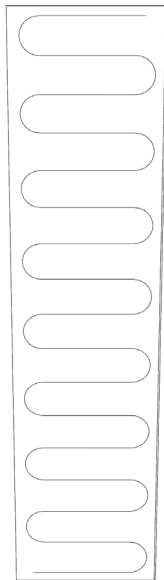
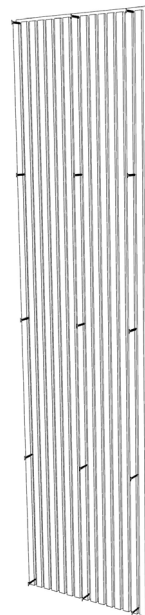

Figure 7. Chemical fastening of the HARMONY panel with construction adhesive.
Figure 8. Mechanical fastening of the HARMONY panel with 15 screws.
The panel orientation can be horizontal or vertical. Please refer to the construction plan to determine the panel orientation and layout. For wall mounting, we recommend chemical and mechanical fastening. Apply a cartridge-type construction adhesive behind the acoustic backing in a zigzag pattern (**Fig. 7**). For mechanical fastening, it is recommended to use #6 double-threaded drywall screws, 1-5/8" length, positioned between the wood blades. Fifteen (15) screws per panel are recommended (**Fig. 8**). Depending on the color of the acoustic backing selected, the screw color should match the backing color.